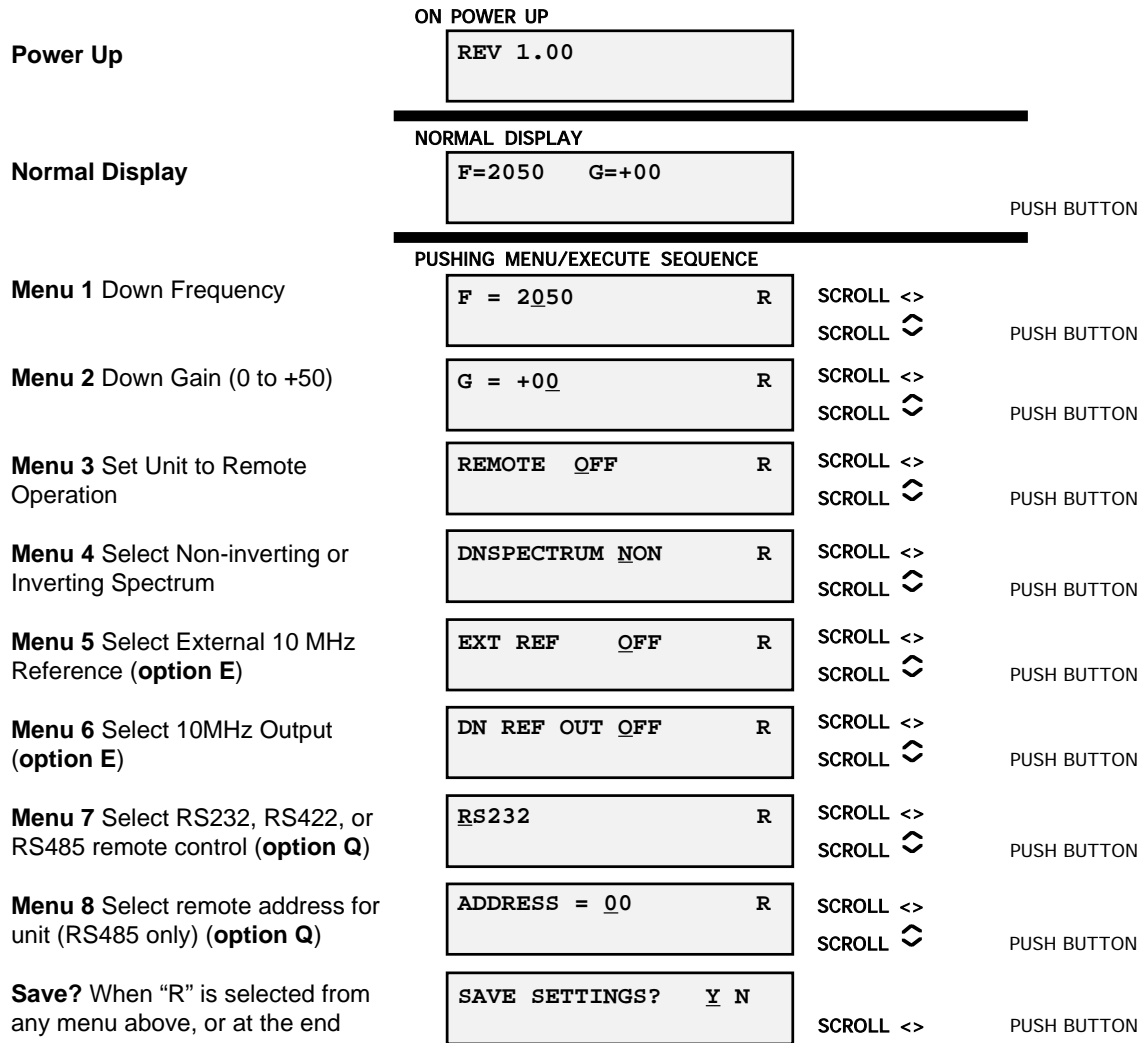

FIGURE 2.5 Menu Display and Sequence
The functions are (see Figure 2.5):
1. Operate the Menu/Execute switch until you get to the menu item you want to change see Figure 2.5 for the sequence of menu options. The following display is for changing the downconverter frequency:
Figure 2.5 shows all the menu items and how to make changes.
Operate the Menu/Execute switch until you get to the menu item you want to change (see Figure 2.5 for the sequence of menu options).
Figure 2.5 gives the menu items and how to make changes